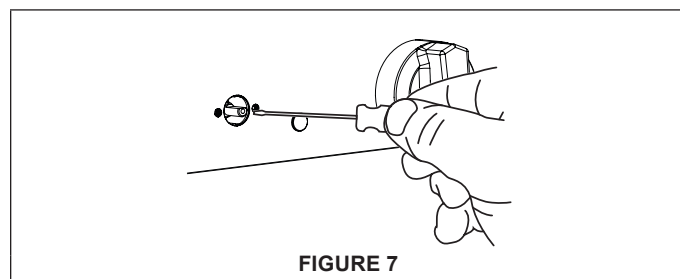

FIGURE 7
- 3 Insert a small, flat-blade screwdriver into the valve shaft. Fit tip of screwdriver into small screw head at base of valve shaft. See Figure 7.